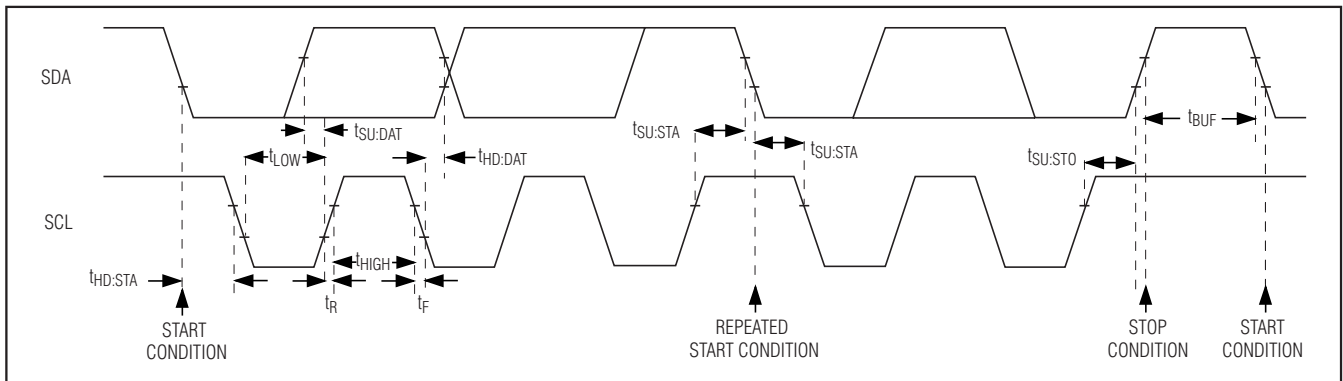

Figure 6. 2-Wire Interface Timing Diagram
The MAX9877A features an I²C/SMBus™-compatible, 2-wire serial interface consisting of a serial-data line (SDA) and a serial-clock line (SCL). SDA and SCL facilitate communication between the MAX9877A and the master at clock rates up to 400kHz. Figure 6 shows the 2-wire interface timing diagram. The master generates SCL and initiates data transfer on the bus. The master device writes data to the MAX9877A by transmitting the proper slave address followed by the register address and then the data word. Each transmit sequence is framed by a START (S) or REPEATED START (Sr) condition and a STOP (P) condition. Each word transmitted to the MAX9877A is 8 bits long and is followed by an acknowledge clock pulse. A master reading data from the MAX9877A transmits the proper slave address followed by a series of nine SCL pulses. The MAX9877A transmits data on SDA in sync with the master-generated SCL pulses. The master acknowledges receipt of each byte of data. Each read sequence is framed by a START (S) or REPEATED START (Sr) condition, a not acknowledge, and a STOP (P) condition. SDA operates as both an input and an open-drain output. A pullup resistor, typically greater than 500Ω, is required on SDA. SCL operates only as an input. A pullup resistor,